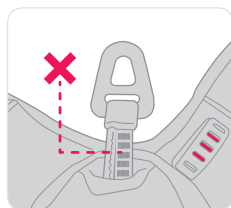

Figure 4
- Ensure that the descent line is not paid out of the device, this would indicate that a descent has occurred (Figure 4). If descent line is paid out the Latchways PRD shall be removed from service and advice sought from Latchways or authorised agent.